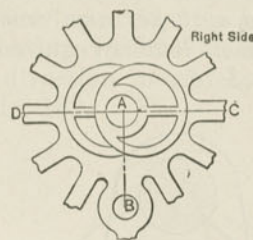

Fig. 187.
*A. As in Fig. 187, the lettering being the same.*